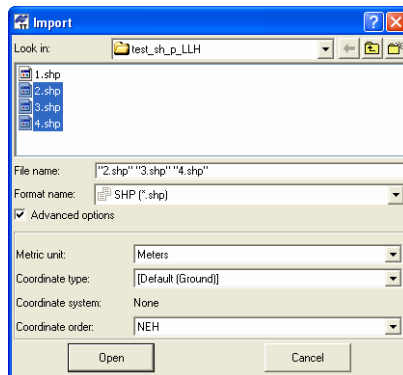

Figure 3-12. Import GIS File
5. Clicking the **Open** button in the **Import** dialog box imports the file to the job. The data is displayed in the *Points* tab (Figure 3-12).